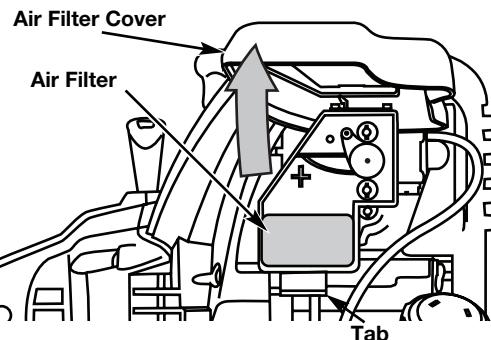

Fig. 44
1. Open the air filter cover. Push the tab on the under side of the cover inward. Then pull the air filter cover out and up. (Fig. 44).
2. Remove the air filter (Fig. 44).
6. Replace the filter (Fig. 44).